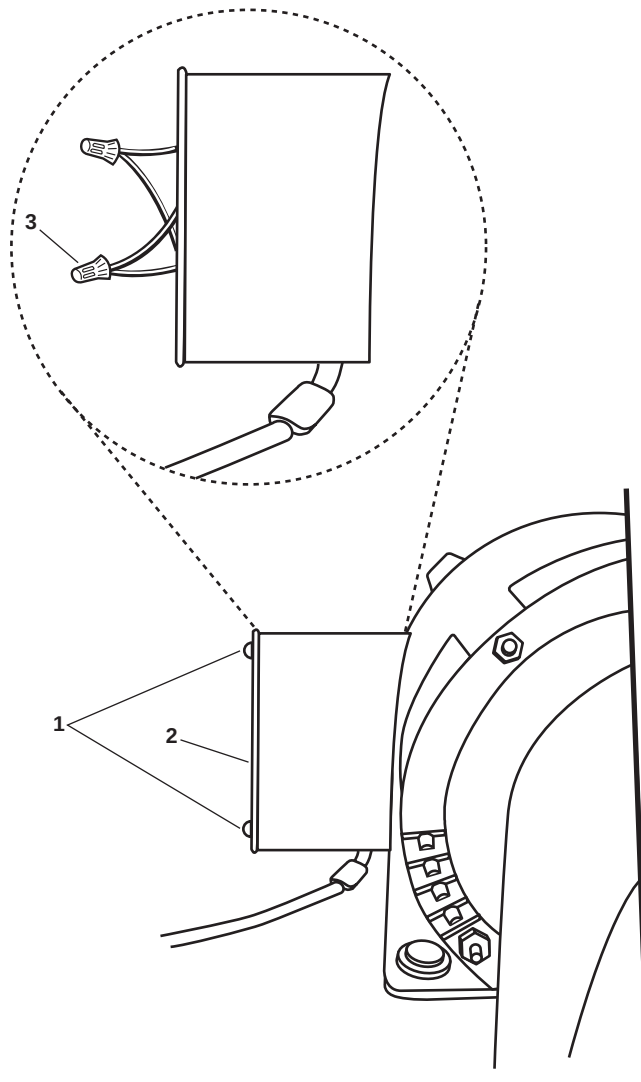

Figure 1. Electrical Junction Box
2. OPEN the applicable water heater outlet and recirculating hot water valves (table 1), listen for any air that may pass through the hot water recirculating pump. Purge any air in the hot water piping by cycling the hot water tank manual relief lever (figure 1, item 4). Air may also be purged by OPENING a hot water valve in the water closets or the galley.
2. Remove the two screws (figure 1, item 1) securing the junction box cover (figure 1, item 2).
3. Remove the junction box cover (figure 1, item 2).
4. Use a multimeter to check for voltage at the wiring terminals (figure 1, item 3) in the junction box. If voltage is present, ensure that the proper circuit breaker is set to OFF, locked out, and tagged out (FM 55-502). If no voltage is present, continue with the procedure.
5. Label and disconnect the electrical wiring (figure 1, item 3).
5. Connect the electrical wiring (figure 1, item 3) using the labels from step 5 of Removal as a guide. Remove the labels.
6. Install the junction box cover (figure 1, item 2) and secure it with the two screws (figure 1, item 1).